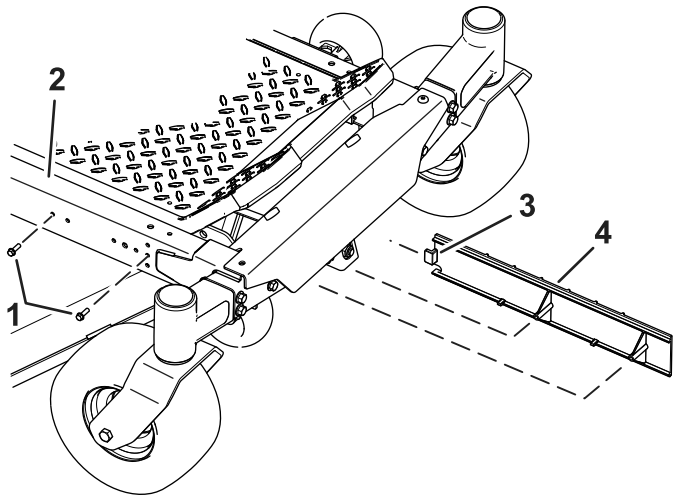

Figure 1
1. Remove the bolts from the frame (Figure 1).
2. Slide the guard tab out of the frame by moving the guard forward (Figure 1).
1. For machines **with** the MyRide Suspension System, slide the guard tab into the frame (Figure 1).
2. For machines **with** the MyRide Suspension System, install the bolts into the frame and guard (Figure 1).